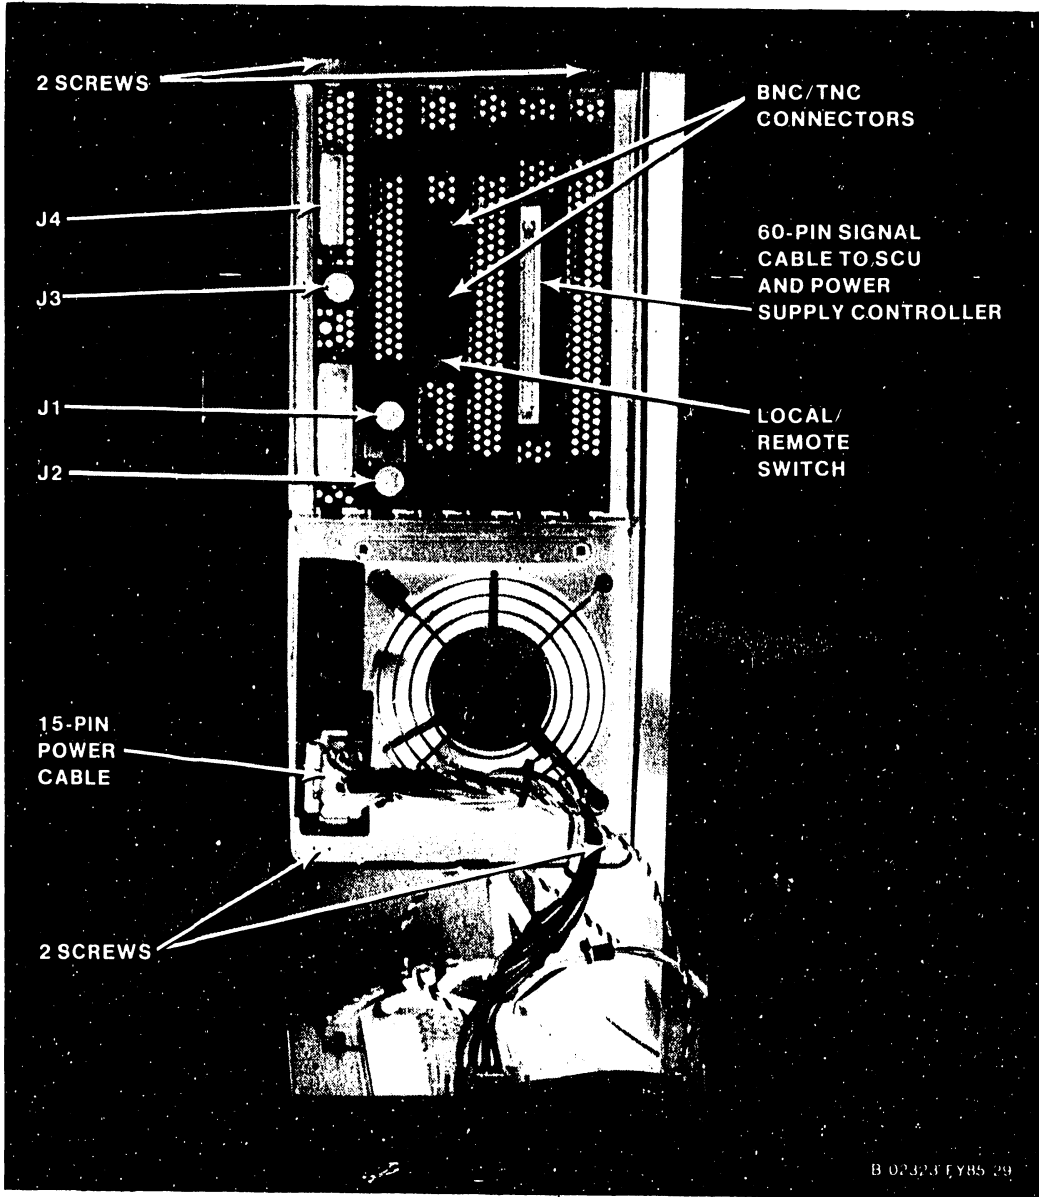

Figure 5-49. SCU Professional Computer Removal and Replacement
5.3.2.17 SCU Professional Computer (PC) Removal
The SCU (PC) is mounted internally at the right side of the mainframe, behind the Control Panel. Remove the SCU as follows: (See figures 5-49.)